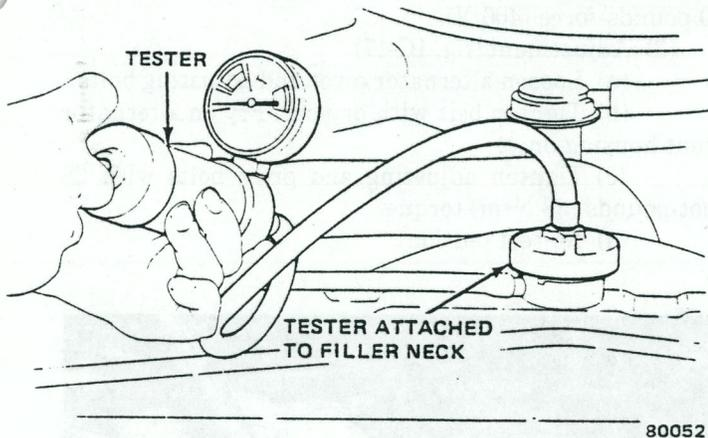

Fig. 1C-15 Cooling System Pressure Test
(2) Wipe inside of filler neck and examine lower inside sealing seat for nicks, cracks, paint, dirt and solder bumps.
(3) Inspect overflow tube for internal obstructions. Insert a wire through tube to ensure it is clear.
(4) Inspect cams on outside of filler neck. If cams are bent, seating of pressure cap valve and tester seal will be affected. Bent cams can be reformed if done carefully.
(5) Attach pressure tester to filler neck-(fig. 1C-15).